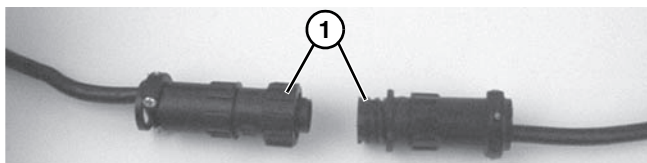

Figure 24
3. For DC variable speed motor, unplug motor cord at disconnect (Figure 24, item 1).